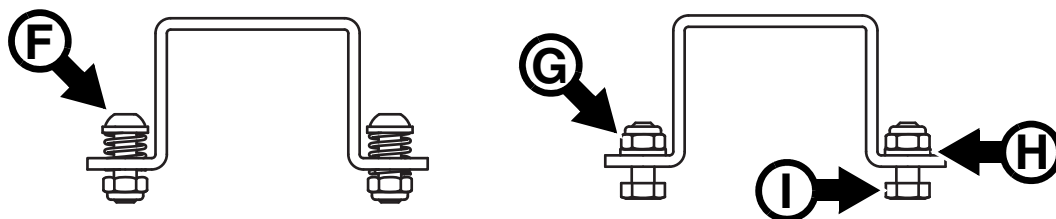

Figure 5: Sliding bracket fasteners
1. See Figure 5. Remove the spring-loaded fasteners **F** from the sliding bracket, removing the two Torx screws with their washers, springs and self-locking nuts. Keep these items safe for possible future use.
If you want to re-install the spring-loaded fasteners, remove the M6 bolt, nut and washer and reassemble the spring-loaded fasteners as shown at **F** in Figure 5. Install the washer under the head of the screw between the head of the screw and the spring. If you do not install the washer, there is a danger that the fastener may fail. Use a new grade 8.8 strength M6 self-locking nut. Hold the nut with a wrench/spanner while you tighten the screw to 1 Nm against the pressure from the spring.